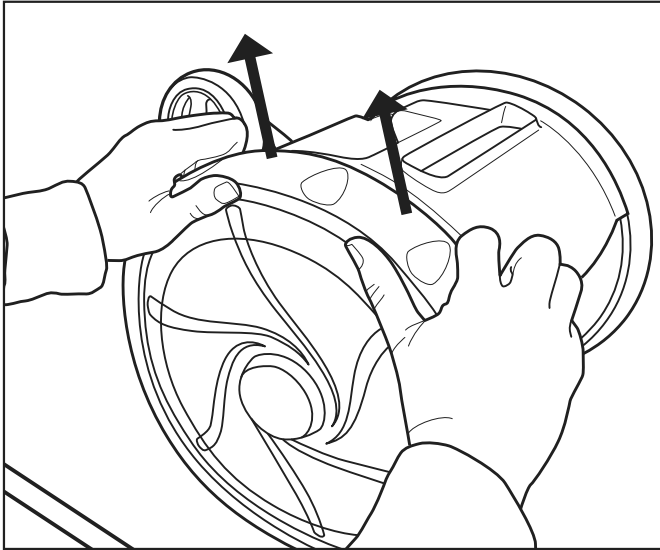

Figure 17. Pull on Inside of Old Tire
1. Using your fingers, pull on the inside of the old tire to remove the tire lip from the wheel. See Figure 17.